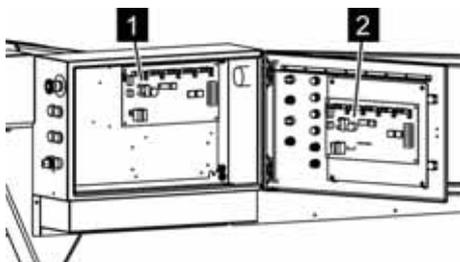

Fig. 151: Fuzzy control card
3. ➤ The fuses are on the fuzzy control card (Fig. 151/1 and 2). Replace defective fuse with a new fuse of equal amperage (↪ Chapter 8.6 'Fuses' on page 168).